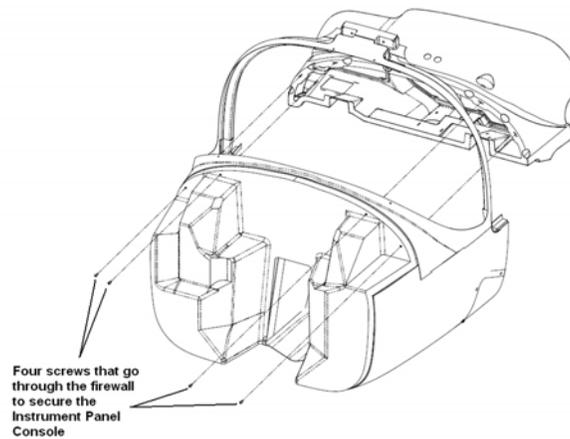

Figure 53-14 Location of the Four Screws the Secure the Instrument Panel Console to the Firewall of the Airplane
23. From the engine compartment, remove the four screws that secure the instrument panel console assembly. See Figure 53-14 for the location of the four screws.